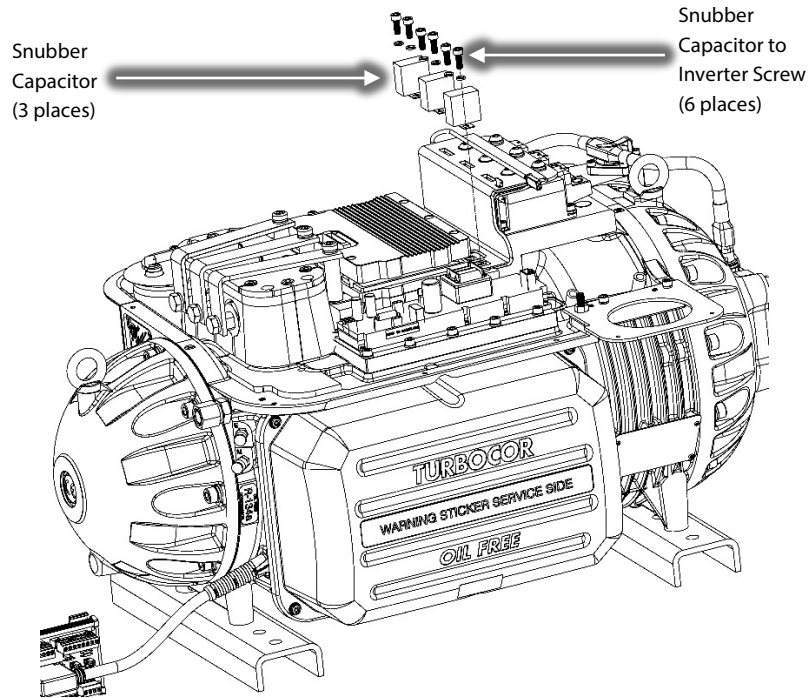

Figure 8 – Snubber Capacitor Removal
- Disconnect the three (3) snubber capacitors from the Inverter noting the leg orientation of one leg is longer than the other. Refer to Figure 8 (Snubber Capacitor Removal).